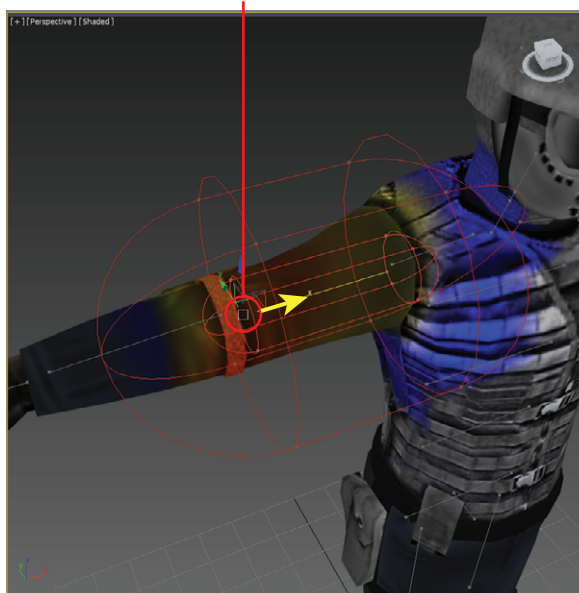

FIGURE 12.18 Select the bone vertex and move it to make the envelope smaller.
2. Select the Bip001 R UpperArm object: You can select the object from the name list in the Skin parameters or just click on the representation of the bone on the model. Select the vertices at the end of the bone and move it toward the clavicle to make the envelope smaller, as shown in Figure 12.18.